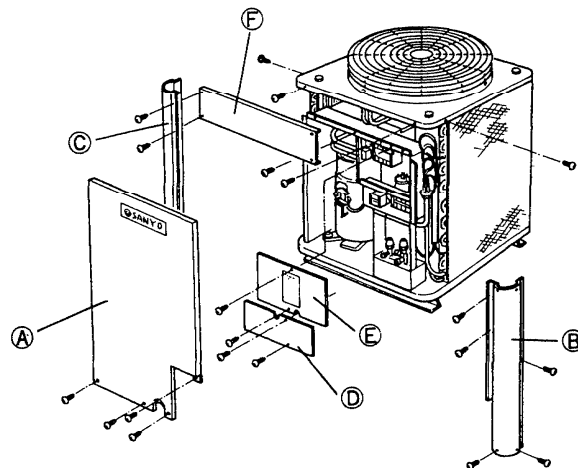

Fig. 7
- 1) Remove the exterior panels in the order of the front panel (A), side panel (B) and side panel (C).
- 2) Remove the cover plates (D) and (E).
- 3) Remove the mounting plate (F). Fig. 7
- 1) Many wires have to be removed. When removing wires, carefully check the electric diagram on the rear side of the cover plate (D) Fig. 7